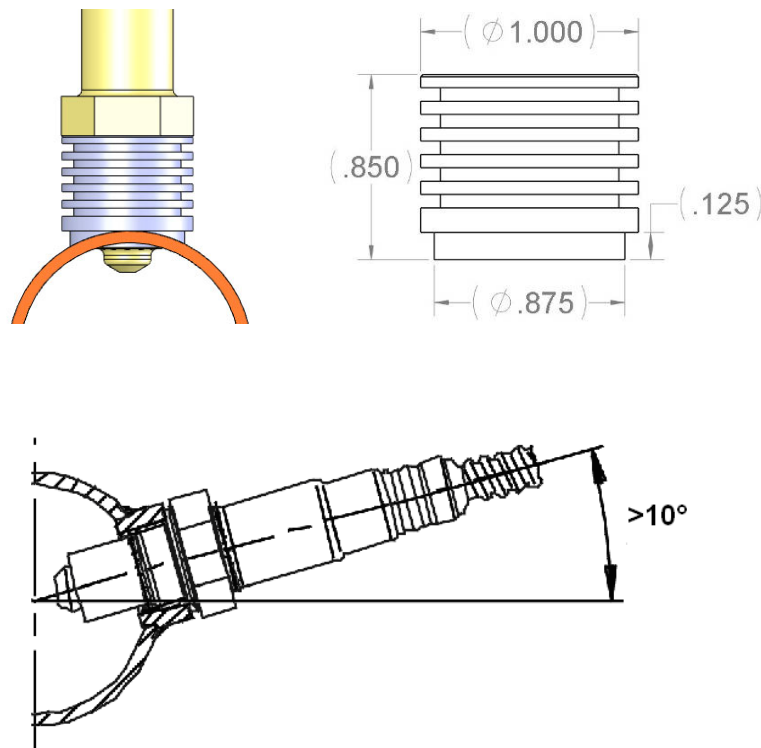

FIGURE 2. Sensor Bung and Sensor Mounting
4. Mount the UEGO sensors as shown in figure 2.
A high flow stainless steel weld-in sensor bung is needed for sensor installation (additional sensors & bungs are available 30-2063). The bung is specifically designed so the sensor can provide accurate AFR readings with minimal flow intrusion and survive extreme exhaust gas temperatures. Pick a mounting location(s) that allows for easy access to the sensor(s). The sensor tip must be exposed to exhaust gas in order to give accurate AFR readings. For thin wall tubing, drill a 15/16" hole and weld in the bung. For thick wall tubing/ castings, drill a 1 1/16" hole and weld in the bung. The sensor must be mounted at an angle of at least 10 degrees from horizontal in order to prevent liquids from collecting in the sensor housing. See Figure 2 below. **NOTE: THE OPTIONAL AEM EBP (EXHAUST BACK PRESSURE) KIT (PART # 30-2064) MUST BE USED IF SENSORS ARE MOUNTED PRE-TURBO.**